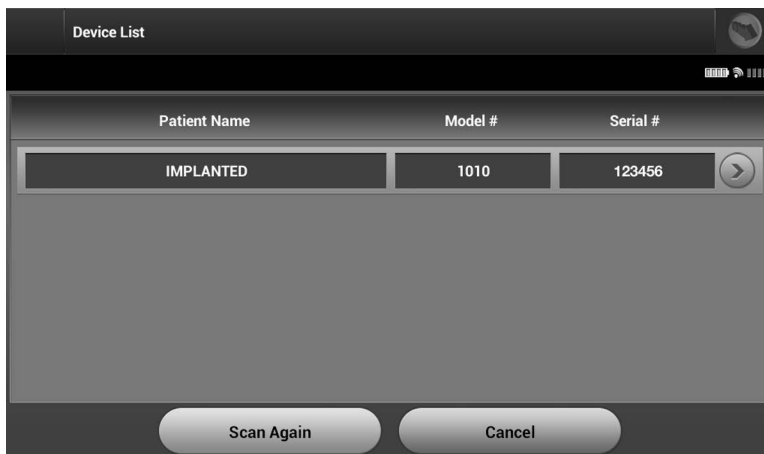

Figure 15: Device List screen (scrollable list)
- When the scanning process is complete, a list of all SQ-RX devices detected (up to 16) will be displayed on the Device List (Figure 15). The SQ-RX devices that are in Shelf mode will be displayed as “Not Implanted.” Any SQ-RX devices that were previously taken out of Shelf mode are displayed either as “Implanted” or with the stored patient name.